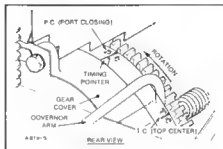

FIGURE 3-32. PORT CLOSING POSITION
- 3 See that PC mark on flywheel aligns with timing pointer on gear case cover, Figure 3-32.